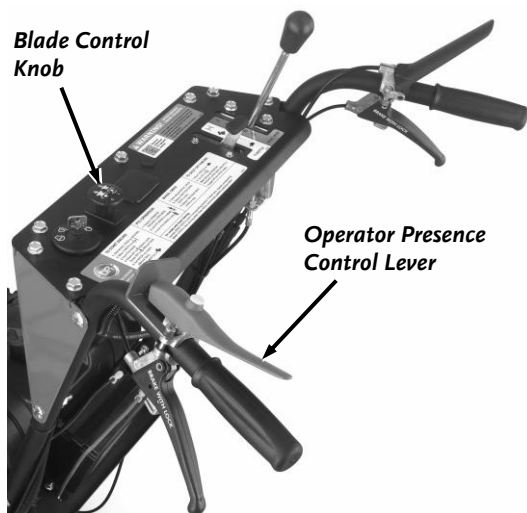

Figure 20
- Push down the Operator Presence Lever against the Handlebar Grip (**Figure 20**).